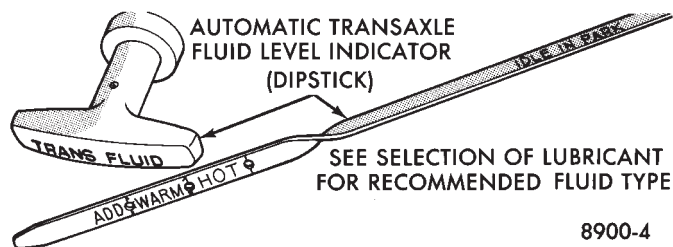

Fig. 4 Automatic Transaxle Dipstick—Typical
- (6) Remove dipstick, with handle above tip, take fluid level reading (Fig. 4). If the vehicle has been driven for at least 15 minutes before inspecting fluid level, transaxle can be considered hot and reading should be above the WARM mark. If vehicle has run for less than 15 minutes and more than 60 seconds transaxle can be considered warm and reading